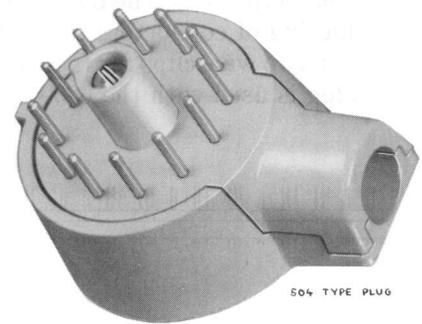

Fig. 5—504A-49 or -50 Plug
**2.04 504A-49 and -50:** The 504A-49 and -50 plugs (Fig. 5) consist of a block of insulating material containing twelve terminals and a removable cap. Each terminal is equipped with a spring connector which permits friction contact with the 134 or equivalent cord tips. The 504A-49 and -50 plugs are used with portable telephone sets having 2- to 12-conductor mounting cords and mates with the 541A or 547A jack, in one position only.